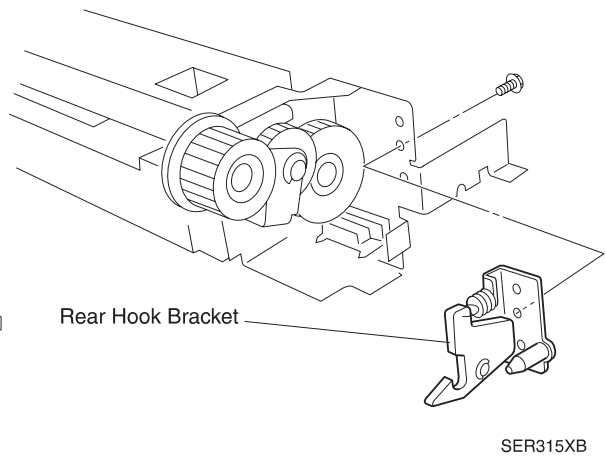

Figure 2
4. Remove the screw securing the Rear Hook Bracket to the Feeder Assembly and remove the Bracket (Figure 2).